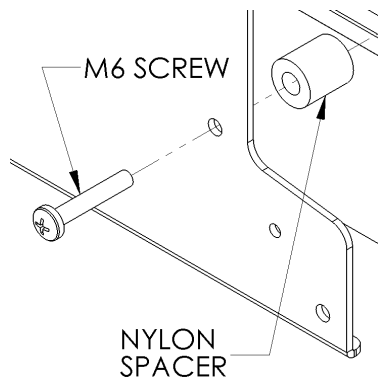
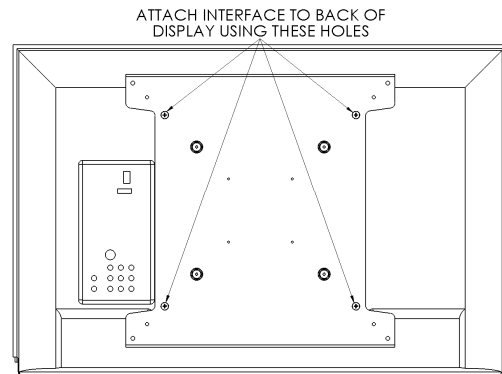
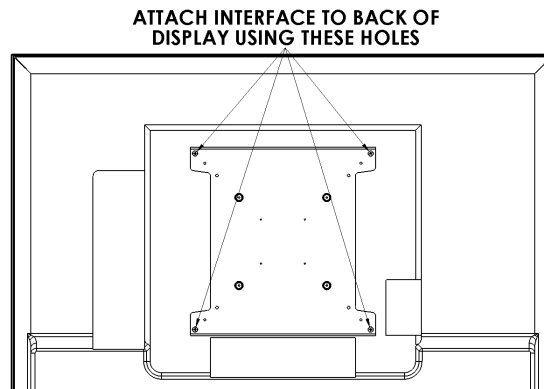

Figure 4
Figure 5 (32" & 37" SCREENS)
Figure 6 (42", 46" & 52" SCREENS)
2. Place Nylon spacers over mounting holes on back of screen. Attach mounting brackets to display using the M6 screws (see Figure 4). For 32" and 37" screens use the longer spacer (20mm length) and M6 x 35mm screw (see Figure 5). For 42" 46" and 52" screens use the .375" spacer and M6 x 25mm Screws (see Figure 6).